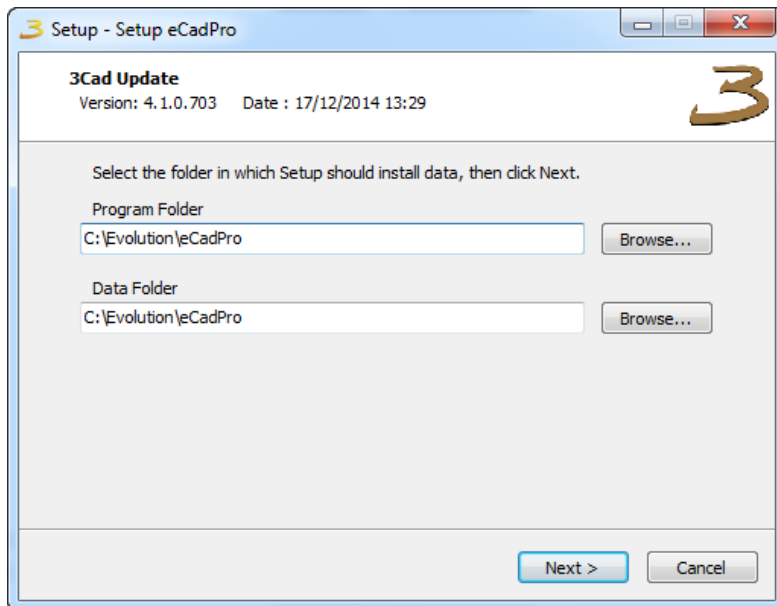

Figure 2.4: Selection of the installation folder
- b) The folder proposed in the Avvio/Start menu may be used, or click on **Forward**, or choose another folder, see figure 2.4.